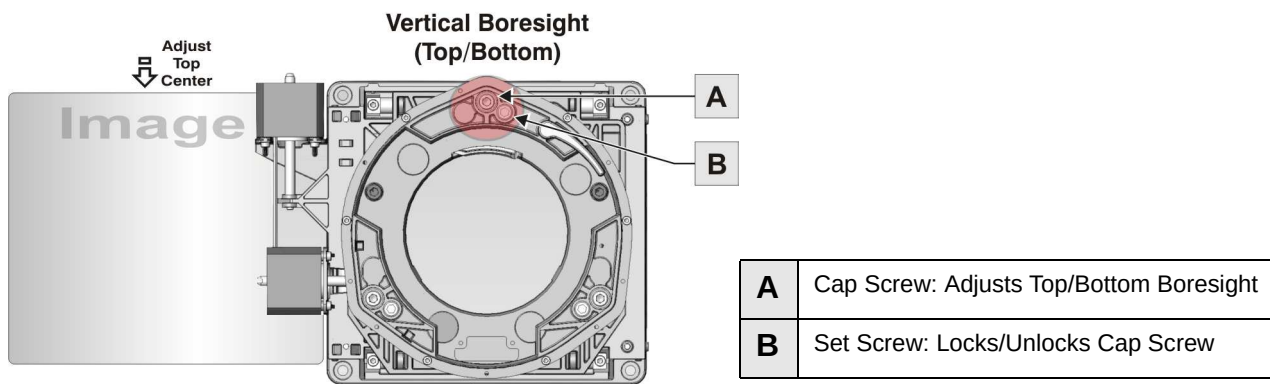

Figure 2-17 Top/Bottom Image Adjustment
3. Use a 5mm hex key to loosen the set screw (**Figure 2-17/B**).
4. Use the 5mm hex key to turn the vertical adjust cap screw 1/8 of a turn counter-clockwise. (**Figure 2-17/A**).